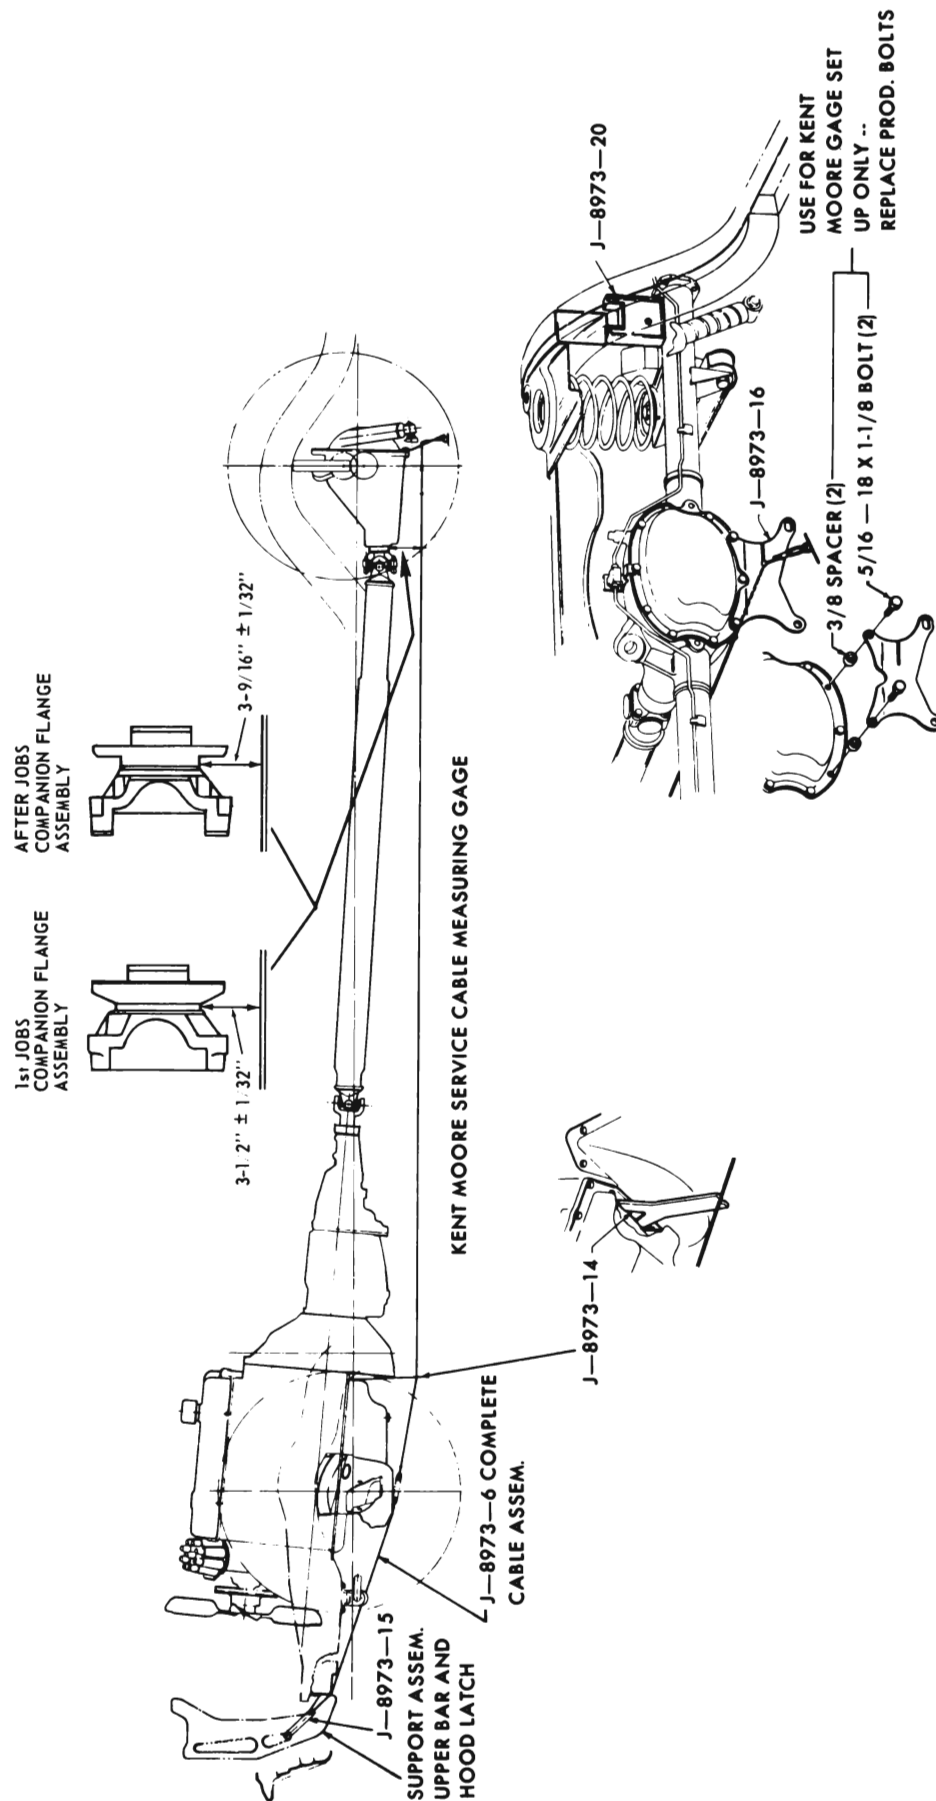

Figure 6-53—Checking Rear Universal Joint Angle
to settle until axle housing contacts block. **NOTE: Use same blocks for Estate Wagons and Sedans. See Figure 6-53.**
3. Engage front attaching Bracket J-8973-15 in lower opening of vertical center support assembly located at front of radiator. Hook bracket into bottom of opening. See Figure 6-53.
4. Place Engine Height Plate J-8973-14 so that the upper end bears against the engine oil pan between the two rear oil pan bolts. See Figure 6-53. Place the cable in notch of height plate, pull cable tight and hook into rear bracket so one of the stops on the cable is to the rear of the bracket slot. It is important that the cable is fully in the slot and is taut and free of kinks.
tance from cable to surface immediately in front of slinger on rear pinion flange. The correct dimension is given in Figure 6-53.
6. If the distance measured in the preceding step is not within tolerances, adjust as follows: Loosen nuts retaining cam bolts which are located at rearward ends of each upper control arm. Turn both loosened cam bolts an equal amount to move rear universal joint up or down. When universal joint is positioned to give the proper vertical dimension on Alignment Set J-8973, tighten nuts and torque to 60-85 ft. lbs. See Figures 6-53 and 54.